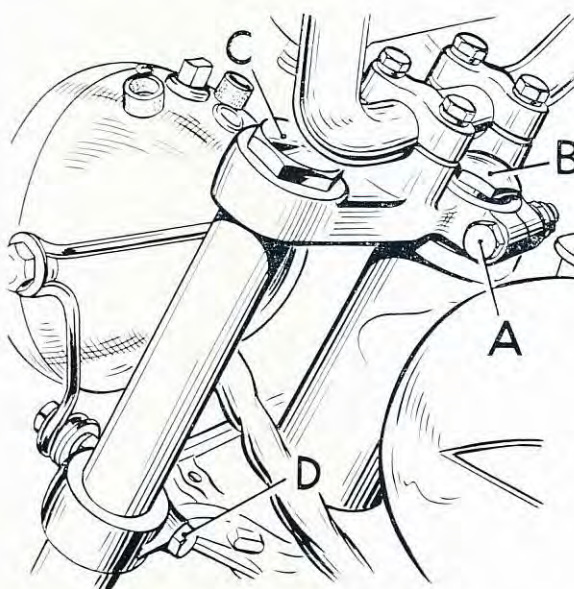

FIG. E2. Steering head adjustment.
To adjust the steering head bearings, slacken off the pinch bolt (A). Using a ring spanner, turn the nut (B) in a clockwise direction to reduce play or anti-clockwise to increase play (see Fig. E2).
Take off the handlebars and lay them on the petrol tank, which should be protected with a piece of cloth. Slacken the pinch bolt (A) and remove the adjuster nut (B) Fig. E2. Using service tool No. 60-0779, remove the top nuts (C). This operation will also release the instruments, which must be supported to avoid damage. Using a hide-mallet, strike the sides of the top yoke alternately from below, to release it from the tapered stanchions.
Fit a new inner race to the bottom of the steering column. Grease the bearing rollers and reassemble the column into the steering head. Grease the rollers of the upper inner race and slide it into position from the top of the column. Add the dust cover, replace the top yoke and tighten the adjuster nut B, Fig. E2, making final adjustment as described on page E2.
If necessary the fork stanchions may now be removed from the yokes. Remove the headlamp (see page D10), slacken the top yoke pinch bolt ("A", Fig. E2) and remove the adjuster nut "B". Using a hide mallet strike the top yoke from below at each side alternately to release it from the tapered stanchions. When the top yoke is free, the forks and steering head may be completely dismantled.
To remedy this condition slacken off the two bottom yoke pinch bolts ("D", Fig. E2) and the stem sleeve nut pinch bolt ("A", Fig. E2) and give point C, Fig. E10, a sharp blow using a lead hammer or a hammer used in conjunction with a soft metal drift.